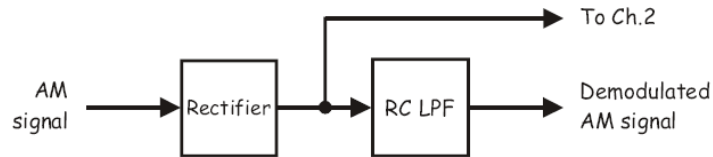

Figure 5.4 Envelope Detector set-up
1. Modify the setup as shown in Figure 5.4.